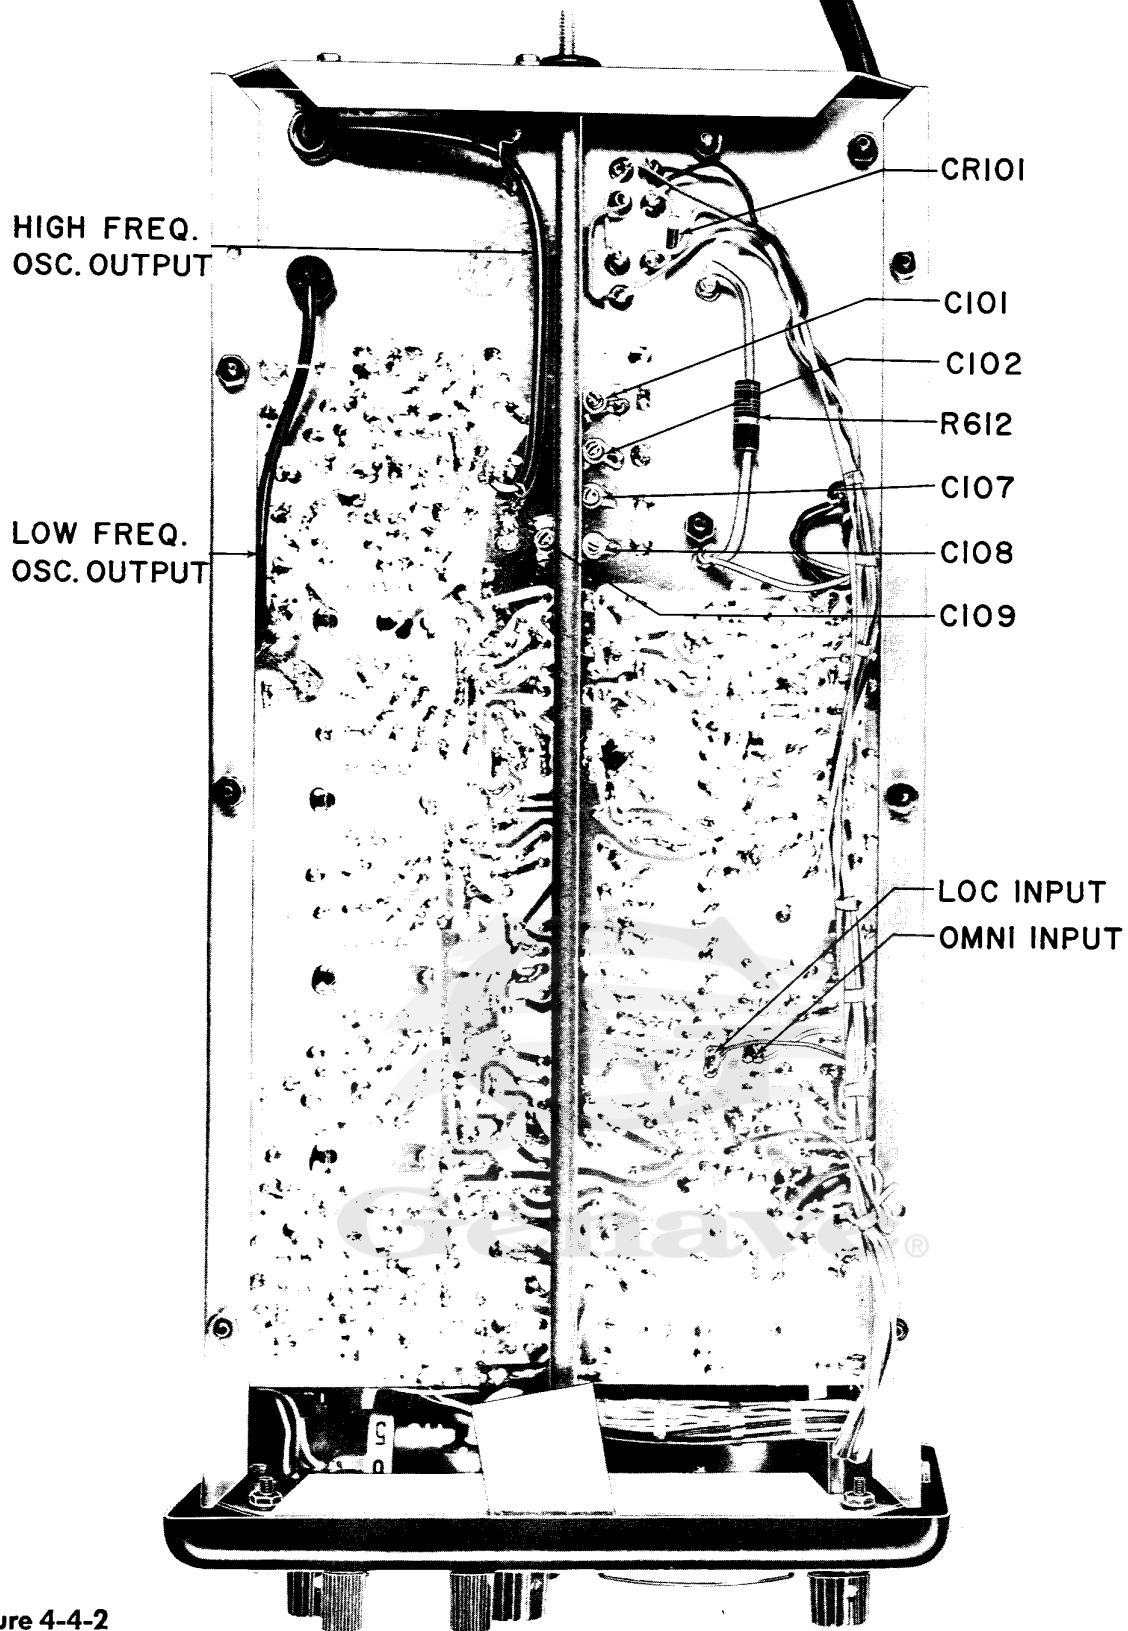

Figure 4-4-2
main board. (See figure 4-4-2).
2. Connect a counter to the low frequency oscillator output cable where it connects to the main board. (See figure 4-4-2).